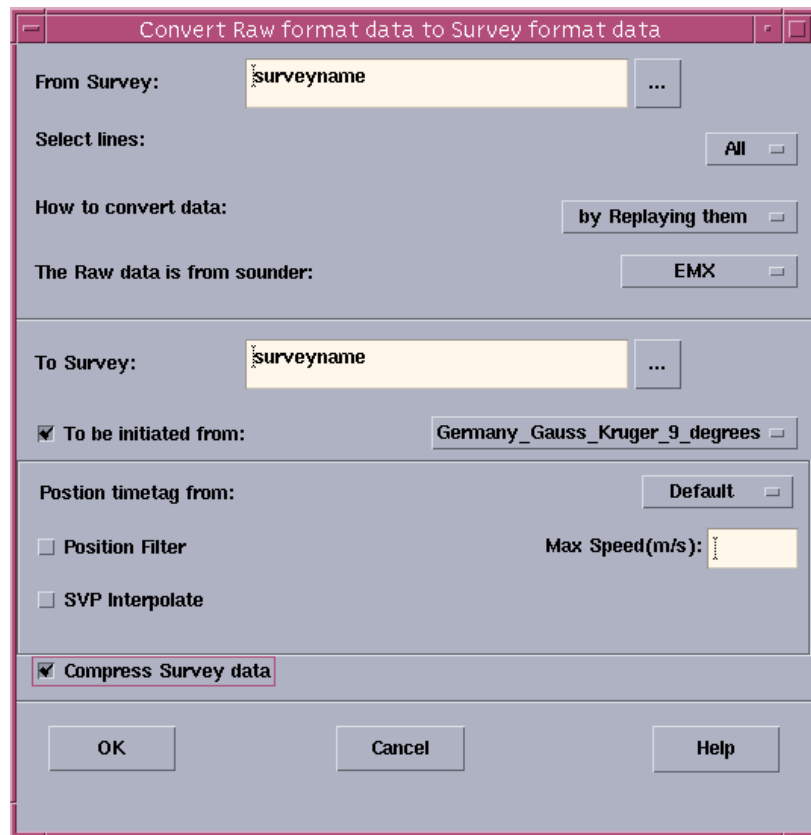

Figure 127 - The Replay dialogue box
- *The Replay dialogue box can be seen in figure 127 on page 346!*